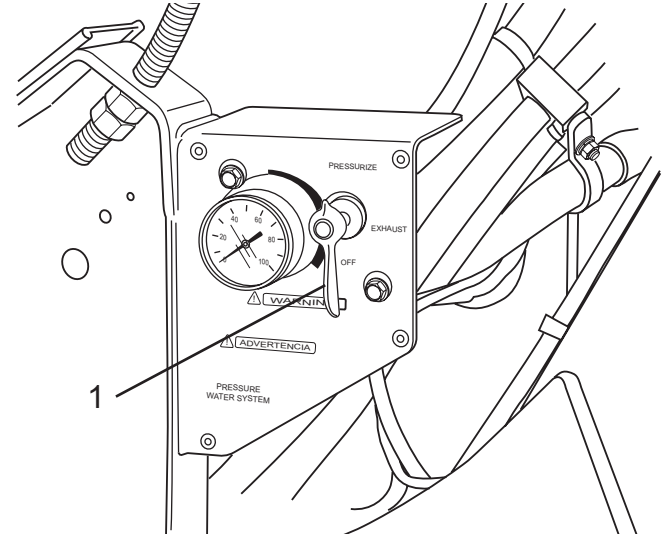

Figure 77
2. After pressure in the water tank has been completely exhausted, turn the air pressure control valve to the OFF position (Figure 77, Item 1).